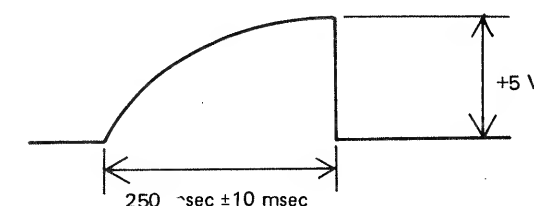

Fig. 5
4) Play any single key and adjust VR12 to obtain an attack time of 250msec ±10msec. See fig. 5.